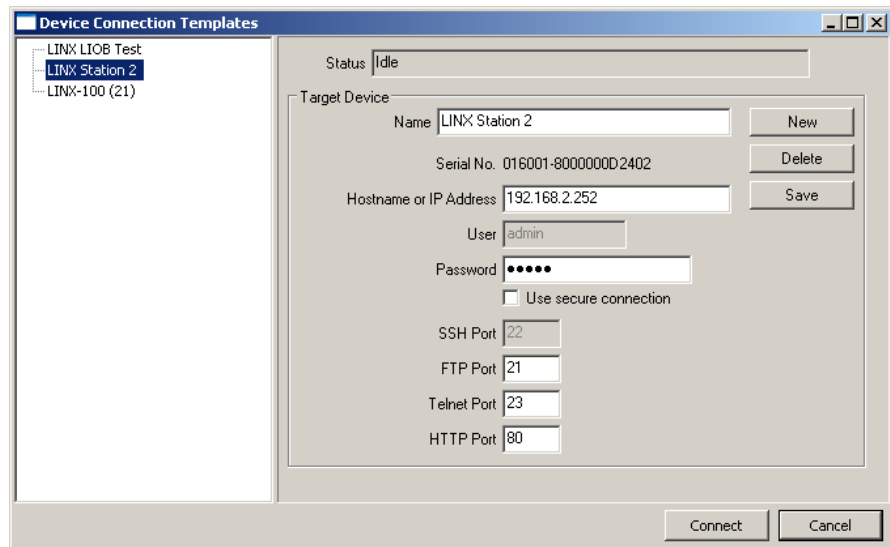

Figure 65: FTP connection dialog.
2. Select the menu: **Connection** → **Connect via FTP**. This opens the FTP connection dialog as shown in Figure 65.